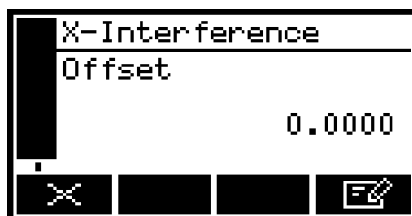

Figure 23 - The X-Interference offset screen
- If your Multi Purpose is configured for a single sample measurement, the X-Interference offset screen is then displayed, as shown in Figure 23. Continue at Step 4.
The X-Interference offset screen is then displayed, as shown in Figure 23. Continue at Step 4 below.